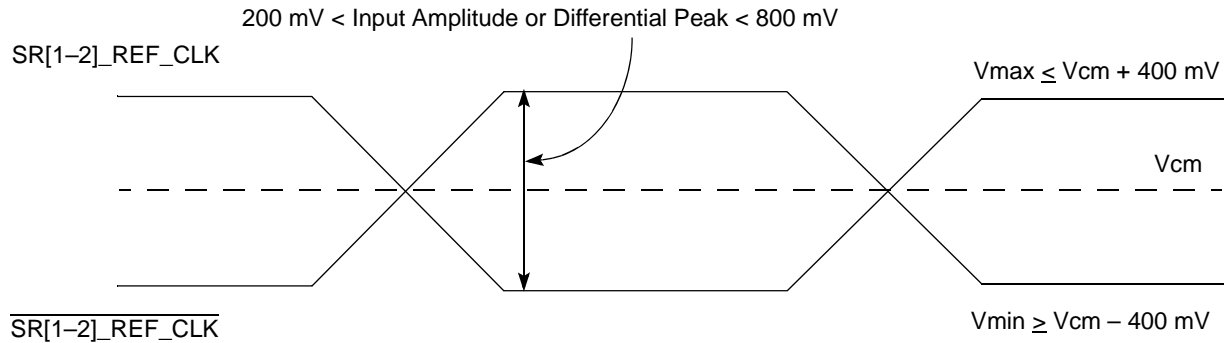

Figure 8. Differential Reference Clock Input DC Requirements (External AC-Coupled)
- For an external AC-coupled connection, there is no common mode voltage requirement for the clock driver. Because the external AC-coupling capacitor blocks the DC-level, the clock driver and the SerDes reference clock receiver operate in different command mode voltages. The SerDes reference clock receiver in this connection scheme has its common mode voltage set to  $GND_{SXC}$ . Each signal wire of the differential inputs is allowed to swing below and above the command mode voltage  $GND_{SXC}$ . Figure 8 shows the SerDes reference clock input requirement for AC-coupled connection scheme.